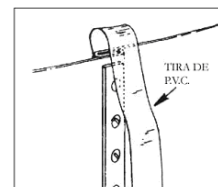

Fig. 3
- Using a strip of PVC, cover the bolt heads on the inside of the pool wall to protect the liner from rubbing against objects, which is the main cause of tears in the liner (fig. 3). Stick the strip with glue for PVC.